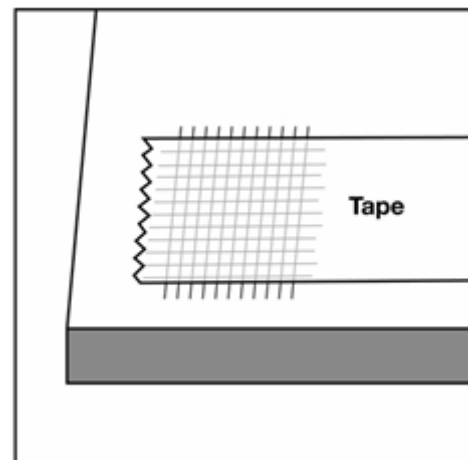

Figure 4e
3. Pressing firmly, apply a  $1/2''$ -wide strip of strong tape (i.e. Scotch™ brand) across the scored area (Figure 4e).